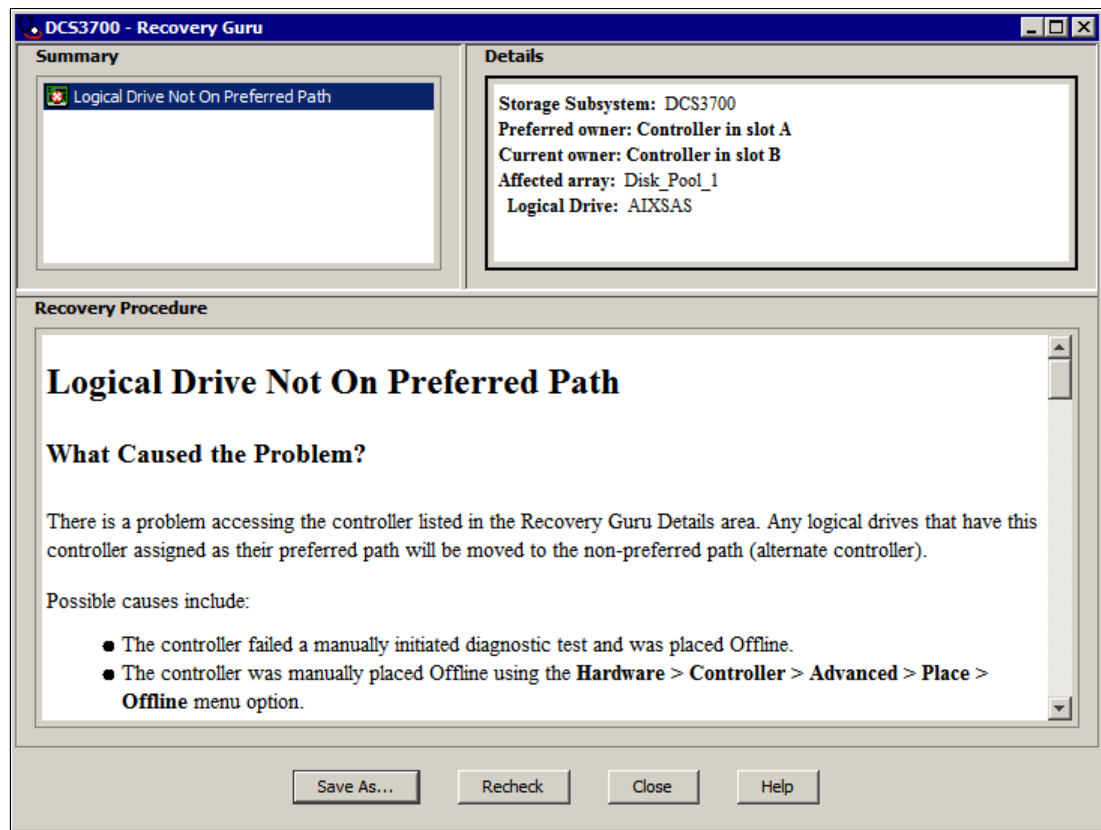

Figure 13-3 Recovery Guru
Click the **Needs Attention** link to start the Recovery Guru, as shown in Figure 13-3.
- ▶ Summary pane: All detected problems are listed here. There are two separate problems that are listed in the example that is shown in Figure 13-3.